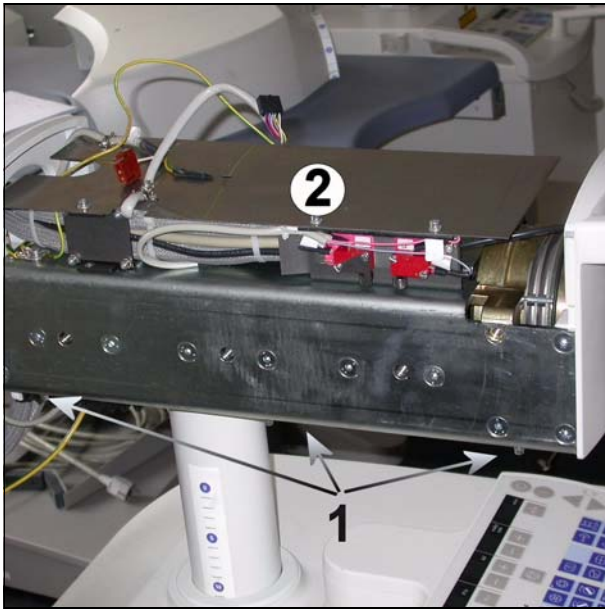

Fig. 3
- For this purpose, release 3 screws on each side (1/ Fig. 3).